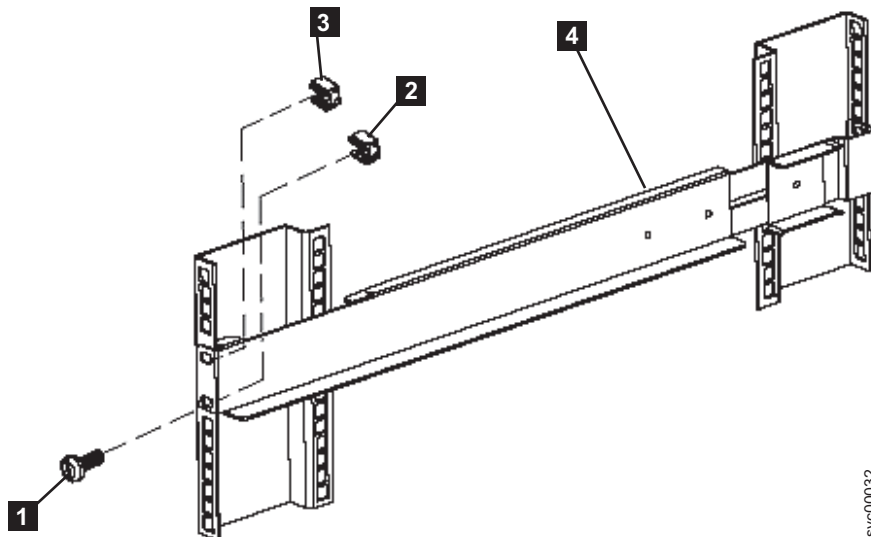

Figure 198. Securing the front rail on the 2145 UPS-1U
7. Attach only the bottom hole of the rail to the front of the rack with one M6 × 10 screw and one clip nut (see 1 in Figure 198).